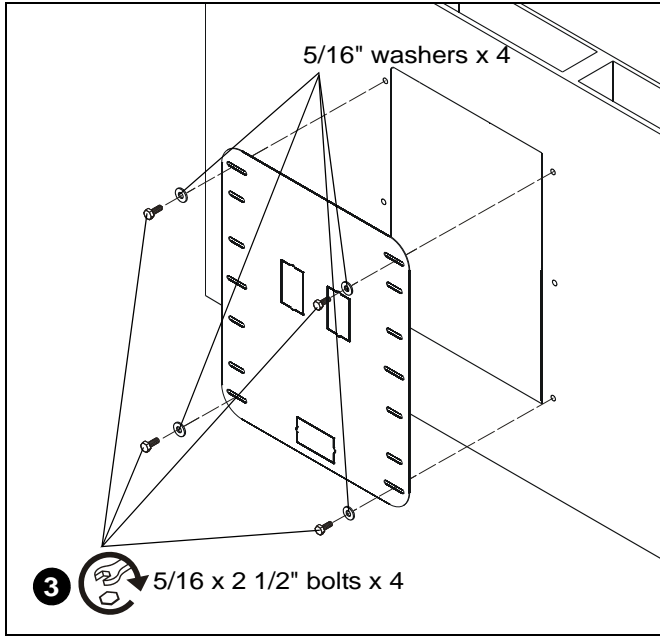

Figure 4
3. Install four 5/16" x 2 1/2" lag bolts and four 5/16" washers removed during CM1 removal through top and bottom holes of CM1TOCM7 adapter and into previously used holes. (See Figure 4)